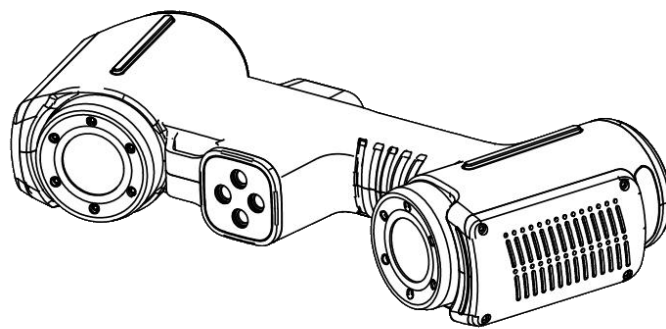

Figure 1:AlphaScan 3D Scanner
(1) AlphaScan 3D scanner body. The appearance of the scanner is shown in Figure 1.